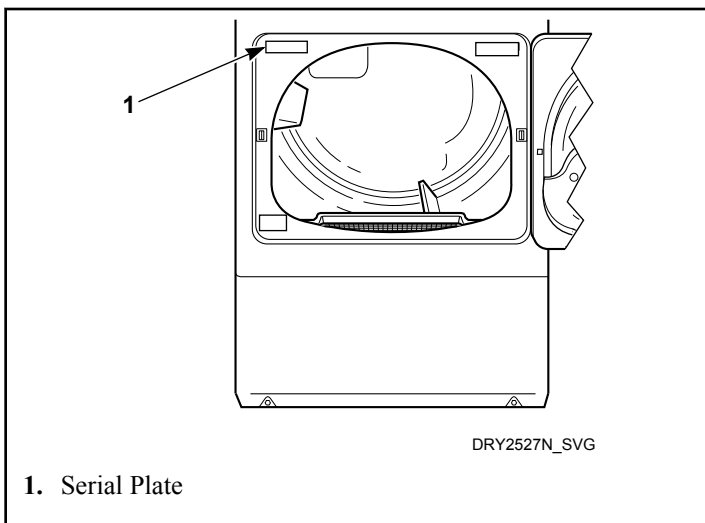

Figure 1
2. Record the machine control dipswitch settings. Then set them all to the off position. Refer to *Figure 1*.